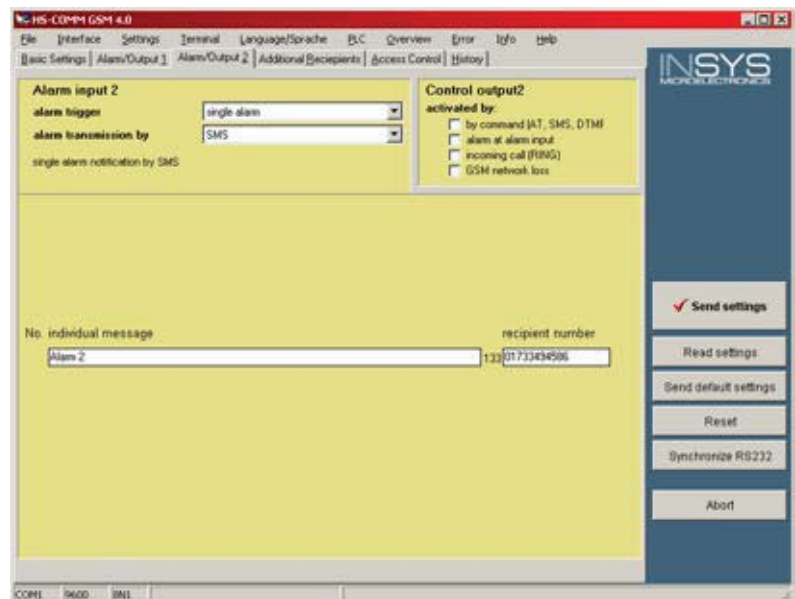

Fig. 181: GSM modem - alarm/output 2
3. ➤ Set up the modem as shown in (Fig. 181) on the “Alarm/Output 2” tab.